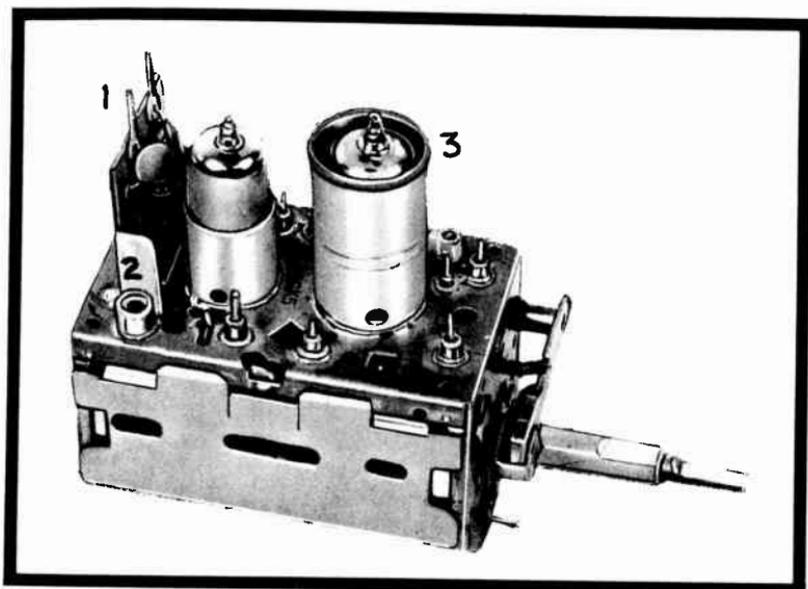

Fig. 2-2. Typical tube-type TV tuner, showing input connections (1), coaxial output connection (2), and a tube shield (3).
3. A 3- or 4-wire cable connecting to the various voltages in the main chassis. These wires may end in individual lugs fastened by screws, or in a common, multi-pin plug which fits a mating socket on the main chassis. Of course, there is some provision for rigidly fastening the complete tuner to the cabinet. Fig. 2-2 is one example of such a tuner; others may differ in a minor detail, but essentially they are of the same general construction and interconnection arrangement.